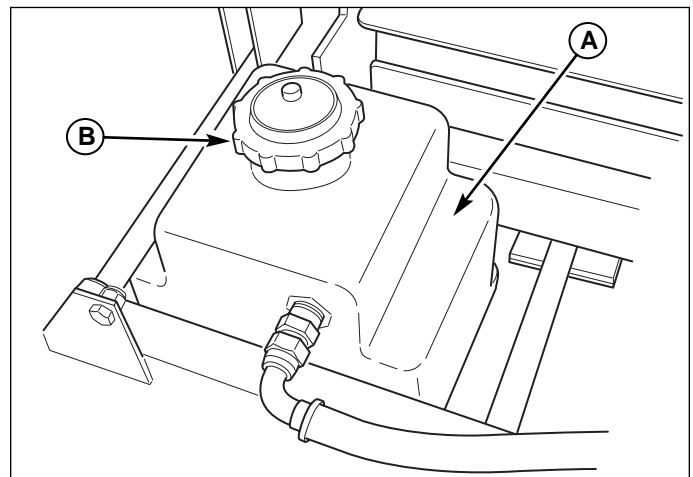

Figure 14. Hydraulic Oil Reservoir
1. Visually check that the hydraulic oil level is filled to the recess area (A, Figure 14) of the hydraulic oil reservoir.
2. If necessary, remove the reservoir cap (B) and add either Mobil 1™, 15W-50 synthetic oil or Castrol Syntec™ 5W-50 oil. **DO NOT** use conventional oils. Make sure area around the filler neck is free of dust, dirt, or other debris.